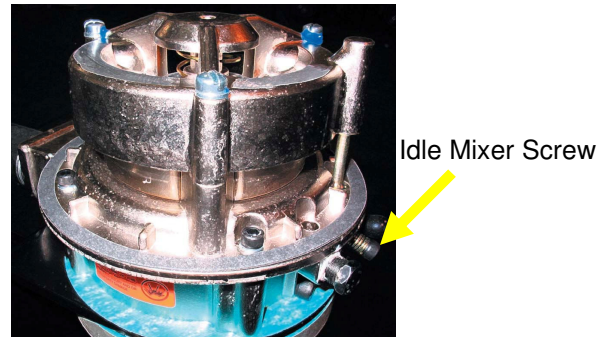

Figure 1-4: 475 Series Mixer
- Figure 1-4..... 475 Series Mixer